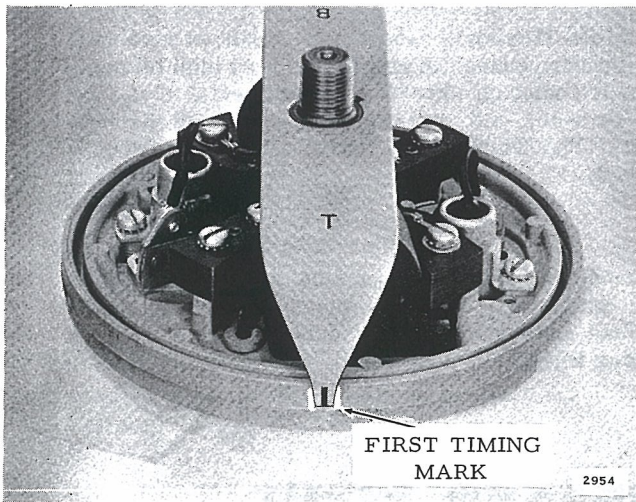

Figure 4-21. Timing Fixture
c. Place timing fixture (Special Tool #383602) on crankshaft. Rotate the crankshaft so that the side of the fixture marked "T" (top) is aligned with the first timing mark on the armature plate. See Figure 4-21.